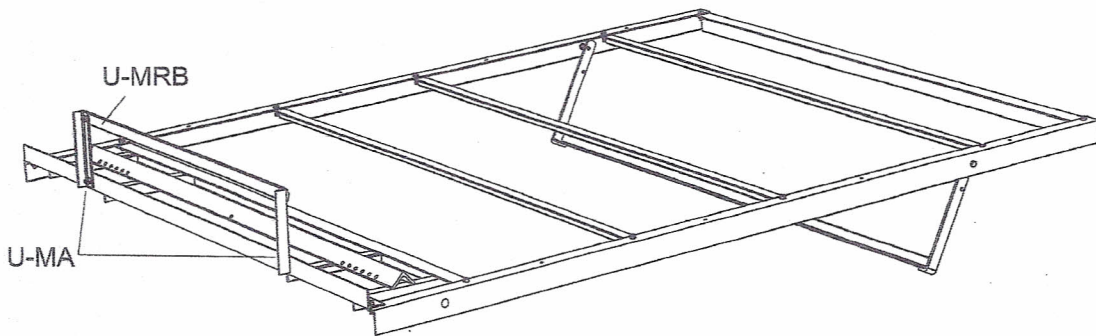

Fig. 7
16. Attach the two Mattress Arms (U-MA) to the head of the frame and attach the Mattress Retainer Bar (U-MRB) to the ends of the the Mattress Arms. Fasten pieces together with 3/4" bolts (UMB75) inserted from the mattress side. See figure 7.